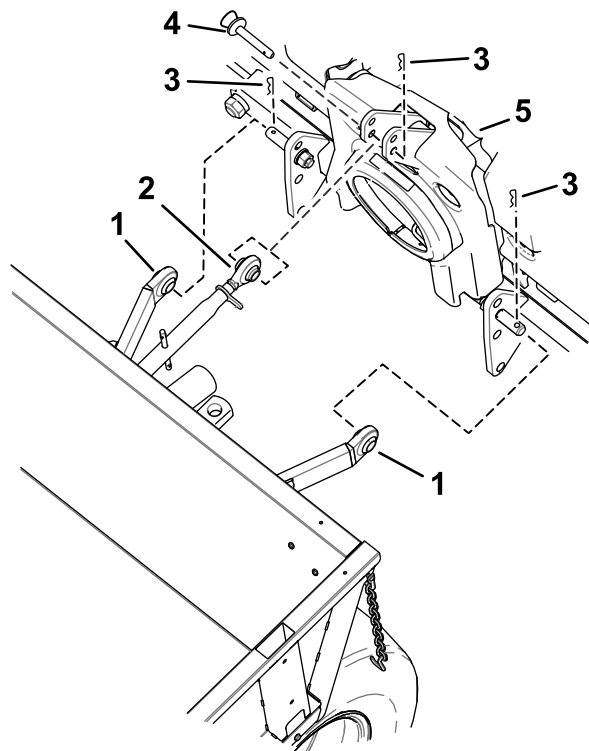

Figure 28
1. Slowly back the machine up and align the draft links to the lower connections of the attachment (Figure 28).
2. Secure the draft links to the attachment (Figure 28).
3. Position the top link to the top connection of the attachment (Figure 28).
4. Secure the top link to the attachment (Figure 28).
4. Remove the top link from the attachment (Figure 28).
5. Remove the draft links from the attachment (Figure 28).